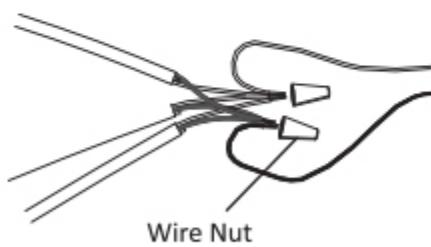

Figure 11
14. Twist the three black pendant cord wires together with the black (hot) wire from your electrical box. Twist on a yellow wire nut to hold the wires together. Then twist the three white pendant cord wires together with the white (neutral) wire from your electrical box. Twist on a yellow wire nut to hold the wires together. (Figure 11)